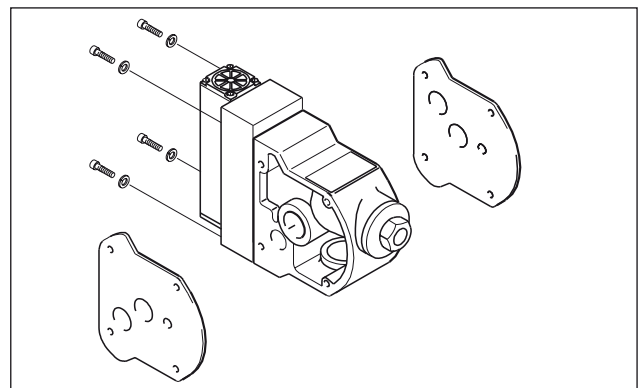

Fig. 19: Assembly of external control valve
- Loosen four fastening screws on the control block. Now you can pull out the complete control valve with pilot control. This is also possible without disassembling the pump (Fig. 19).